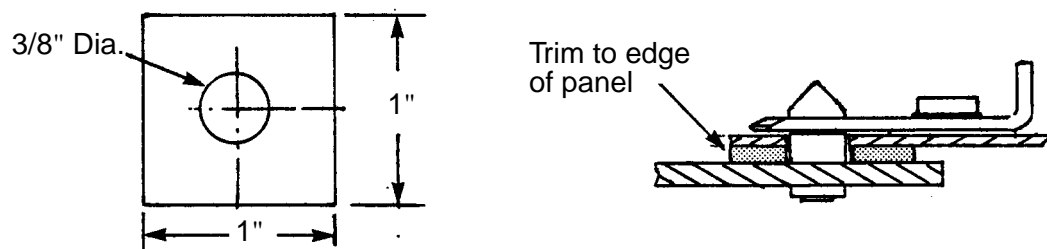

Figure 4 - Neoprene Packing
- Step 1. Unless otherwise specified on the engineering drawing, cut the neoprene packing to size according to Figure 4.
- Step 2. Locate and bond the packing to the panel, as shown in Figure 4, according to PPS 25.23.